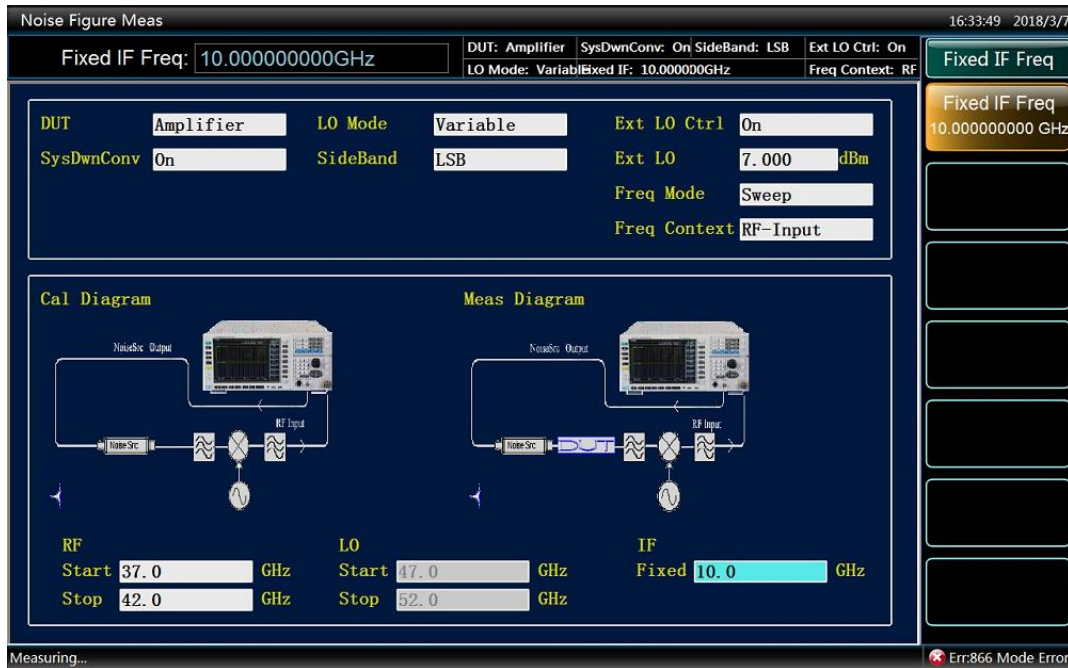

Fig. 3.16 Setting Interface of System downconverter Mode
- Step 10.** Activate the Fixed IF input box, enter "10" with the numeric keys, and then press the [GHz] unit key to complete the input. The mode setup interface is shown in Figure 3.16.